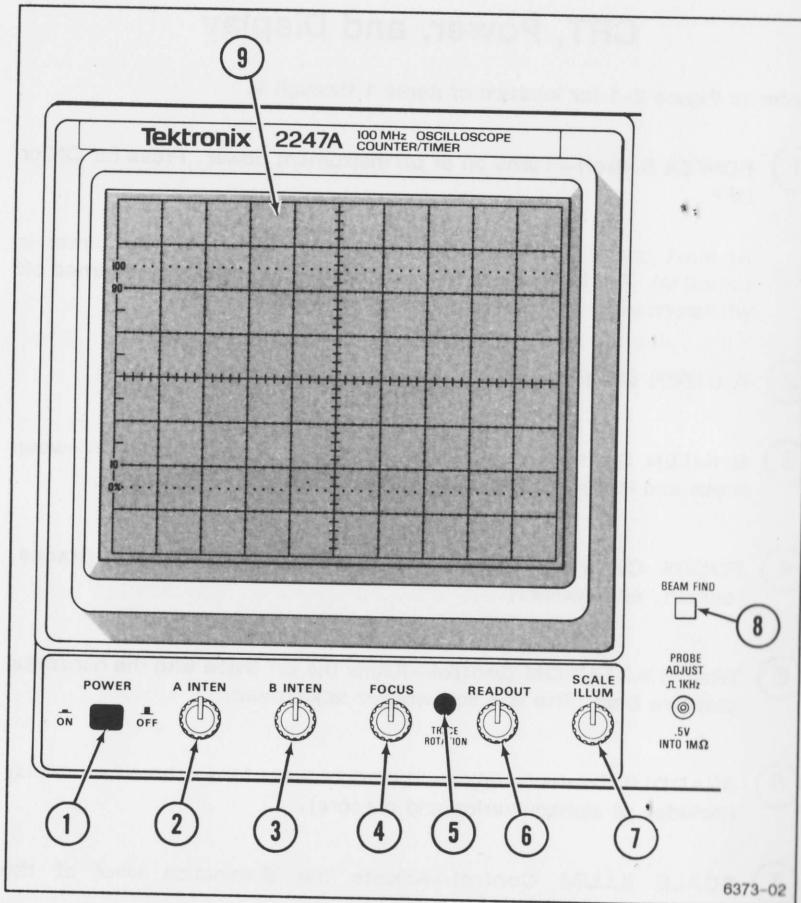

Figure 2-1. CRT, power, and display controls.
Refer to Figure 2-1 for location of items 1 through 9.
- (1) **POWER Switch**—Turns on or off instrument power. Press for ON or OFF.